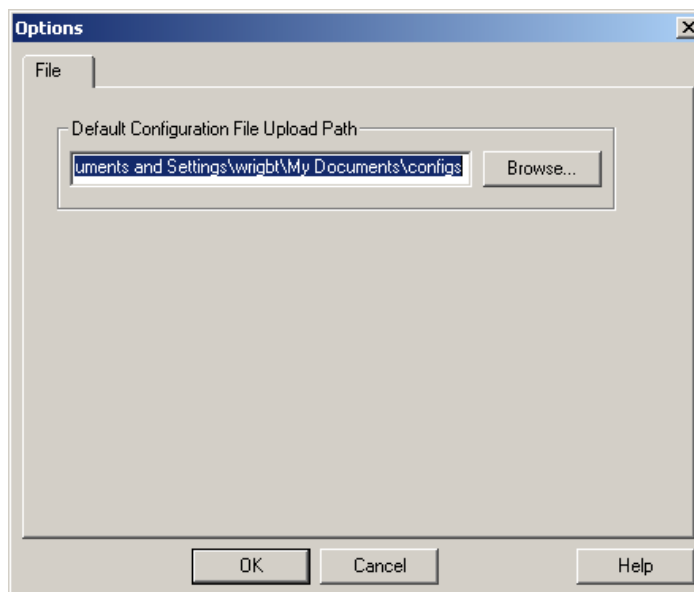

Figure 5-11 Options dialog
1. Select **Tools > Upload File Path**. The Options dialog displays. See Figure 5-11.
⁸ This will be the case when: the configuration was created at a controller faceplate; or the configuration being uploaded was created in i|config but was saved to a folder other than the default folder; see Figure 5.11; or the configuration's graphic content was edited at the controller faceplate.